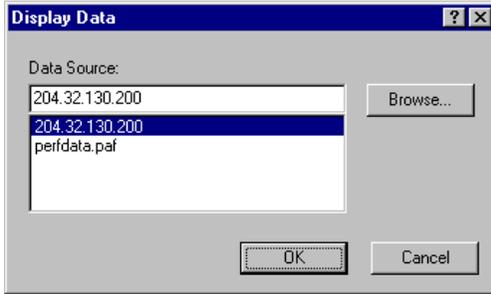

Figure 5-42. Display Data
1. Click Display Data. A display Data dialog box opens (Figure 5-42).